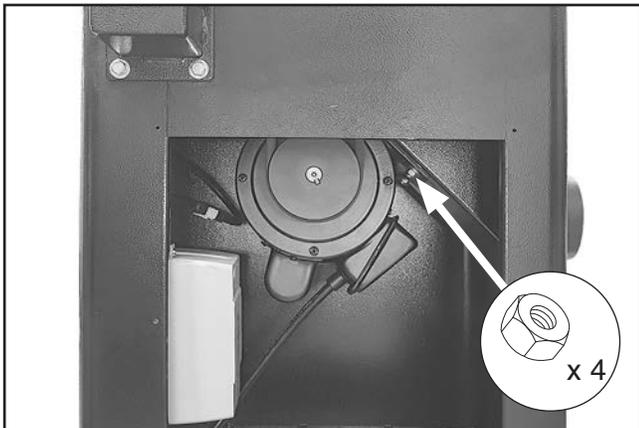

Figure 14. Location of motor mount hex nuts.
- Loosen motor mount hex nuts shown in **Figure 14**, but DO NOT completely remove them.
- Tighten motor mount hex nuts (see **Figure 14**) and replace rear panel.